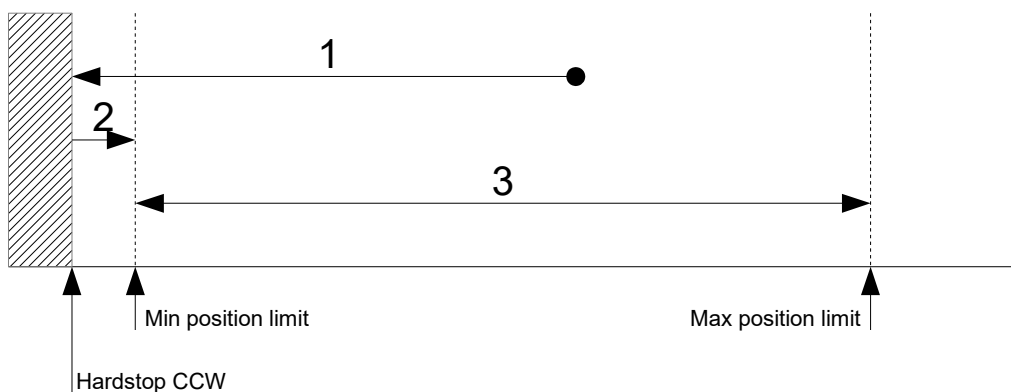

Figure 7: Single ended homing CCW
For this homing method, the motor is driving with a constant negative velocity (6099_h:2) counterclockwise into a hard stop (1) as shown in figure 7. While driving into the hardstop the actual motor current is measured and compared with the negative current threshold (2025_h:4). If the negative current threshold is reached, the motor moves back by +PositionOffset_CCW (2025_h:3) encoder steps (2). Then the motor is stopped and the actual position (6064_h) is set to 0. The min position limit (607D_h:1) is also set to 0. The velocity is limited to (6099_h:1). The max position limit (607D_h:2) will not be changed during this homing method and can be set before homing to limit the position range.